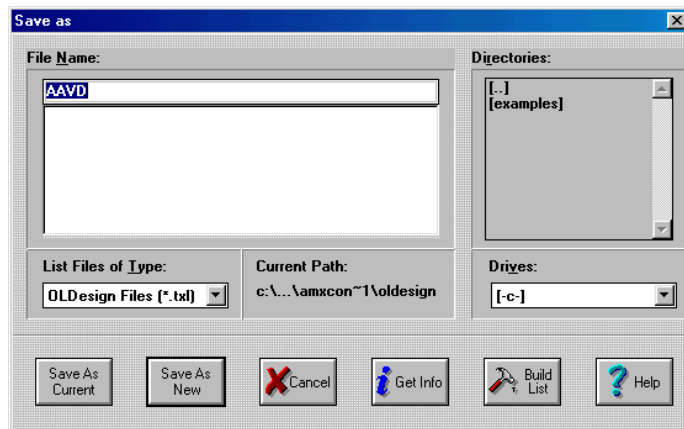

FIG. 19 Save As dialog
1. Open the target program file. Click File > Save as to open the Save As dialog (FIG. 19).